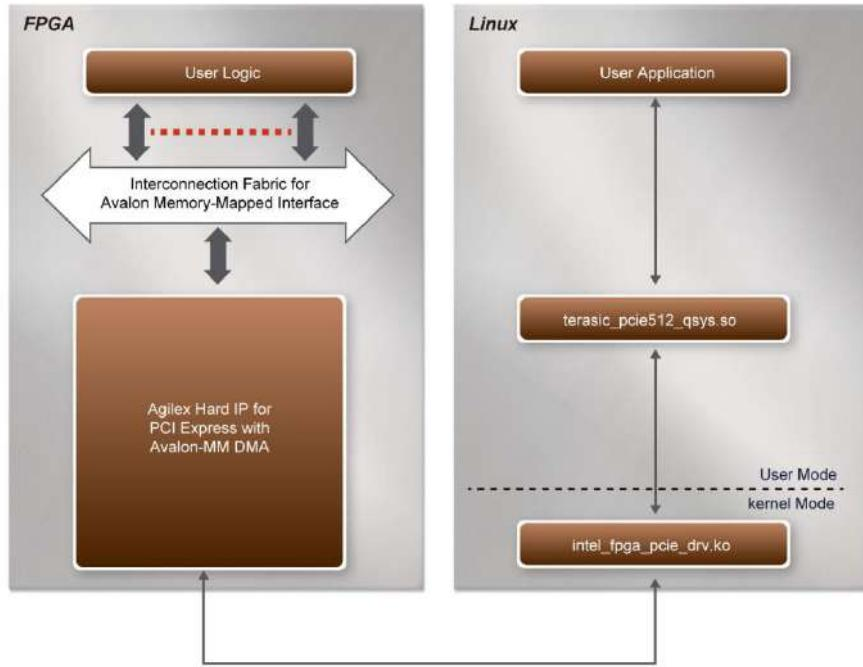

Figure 8-1 Infrastructure of PCI Express System
**Figure 8-1** shows the infrastructure of the PCI Express System in this demonstration. It consists of two primary components: FPGA System and PC System. The FPGA System is developed based on Agilex Hard IP for PCI Express with Avalon-MM DMA. The application software on the PC side is developed by Terasic based on Intel's PCIe kernel mode driver.